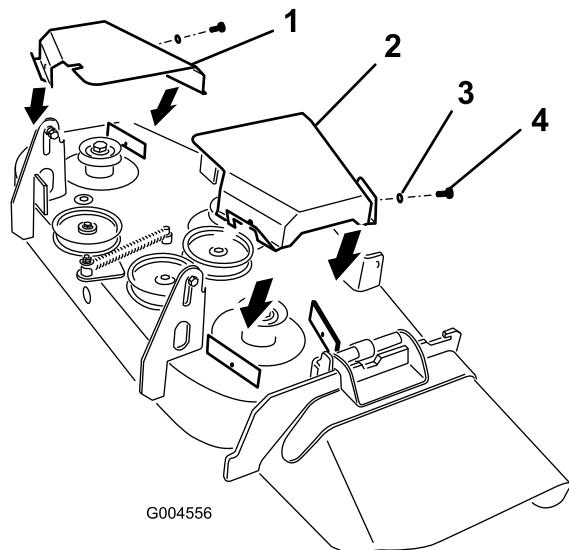

Figure 44
3. Remove 2 bolts and washers in each belt cover and remove the belt covers over the outside spindles (Figure 44).
8. Install the belt covers over the outside spindles (Figure 44).